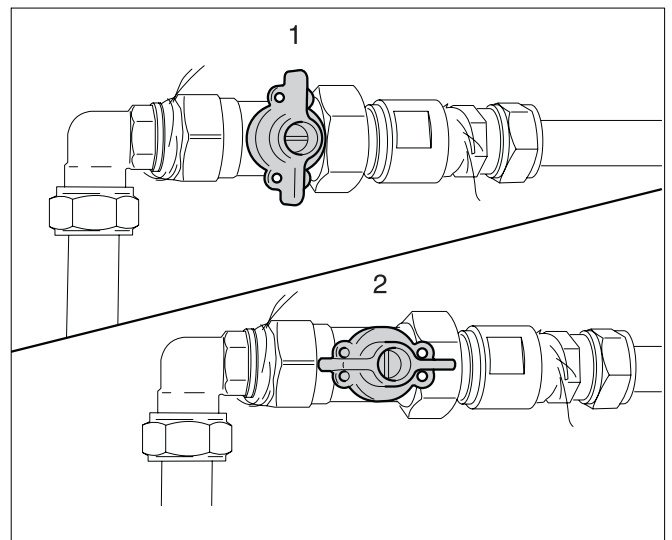

Fig. 137 Gas shut-off valve closed (1), gas shut-off valve open (2)
- Open the gas shut-off valve (see fig. 137, pos. 2)